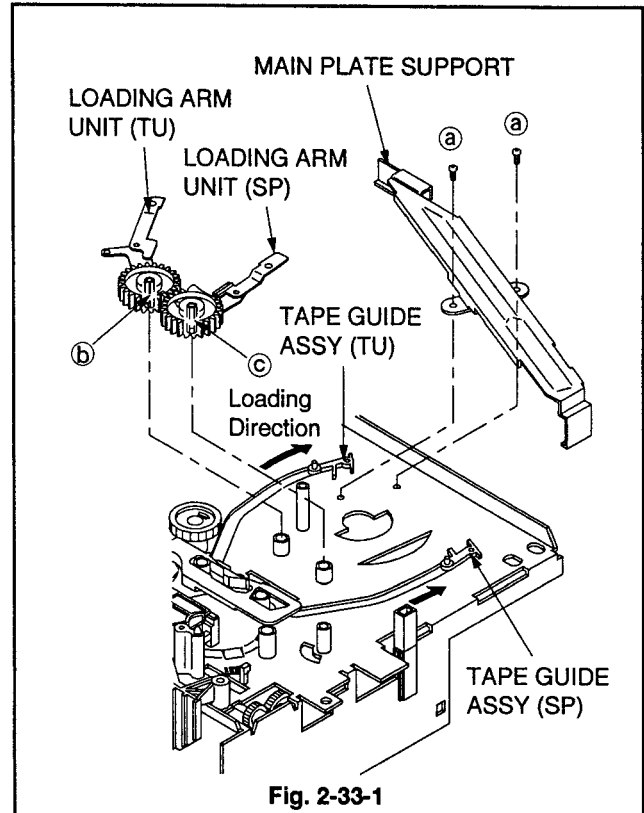

Fig. 2-33-1
1. Remove the two MAIN PLATE SUPPORT fastening screws (a), shown in Fig. 2-33-1, and remove the MAIN PLATE SUPPORT.
2. Move the TAPE GUIDE ASSY (SP) and TAPE GUIDE ASSY (TU), shown in Fig. 2-33-1, to the fully loading position.
3. Use tweezers to unfasten Catch (b) on the surface of the LOADING ARM UNIT (TU) shown in Fig. 2-33-1 and remove the LOADING ARM UNIT (TU).
4. Use tweezers to unfasten Catch (c) on the surface of the LOADING ARM UNIT (SP), shown in Fig. 2-33-1, and remove the LOADING ARM UNIT (SP).
2. Install the LOADING ARM UNIT (SP) shown in Fig. 2-33-1.
5. Move the TAPE GUIDE ASSY (SP) and TAPE GUIDE ASSY (TU), shown in Fig. 2-33-1 fully to the unloading position.
6. Install the MAIN PLATE SUPPORT shown Fig. 2-33-1.
1. Move the TAPE GUIDE ASSY (SP) and TAPE GUIDE ASSY (TU), shown in Fig. 2-33-1, to the fully loaded position.
4. Move the TENSION ARM, shown in Fig. 2-34-4 fully in the direction shown by arrow. Move the TAPE GUIDE ASSY (SP) and TAPE GUIDE ASSY (TU), shown in Fig. 2-33-1 to the fully unloaded position.